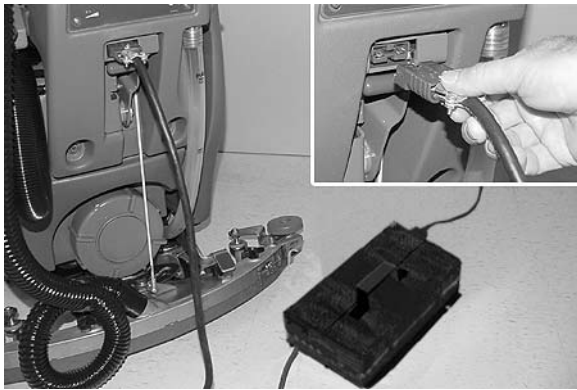

FIG. 46
11. Recharge the batteries after a total of 30 minutes of use or more (Figure 46). (See CHARGING BATTERIES).